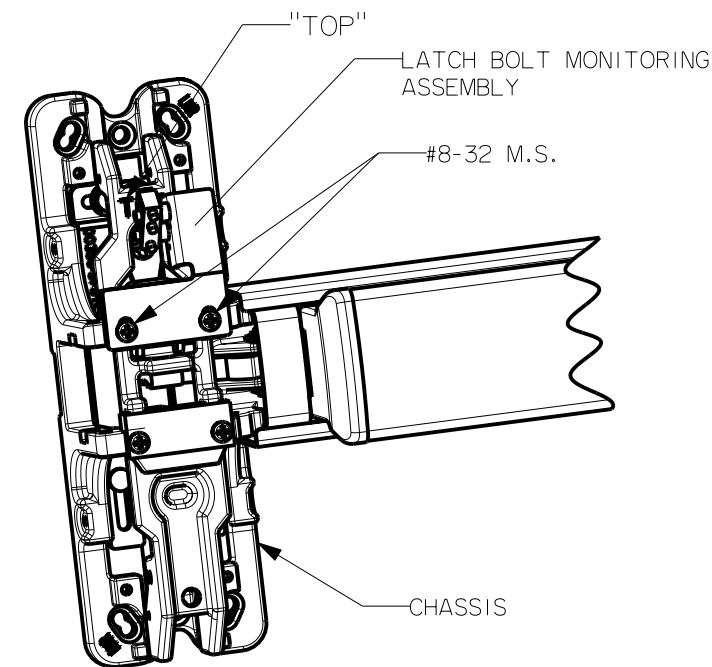
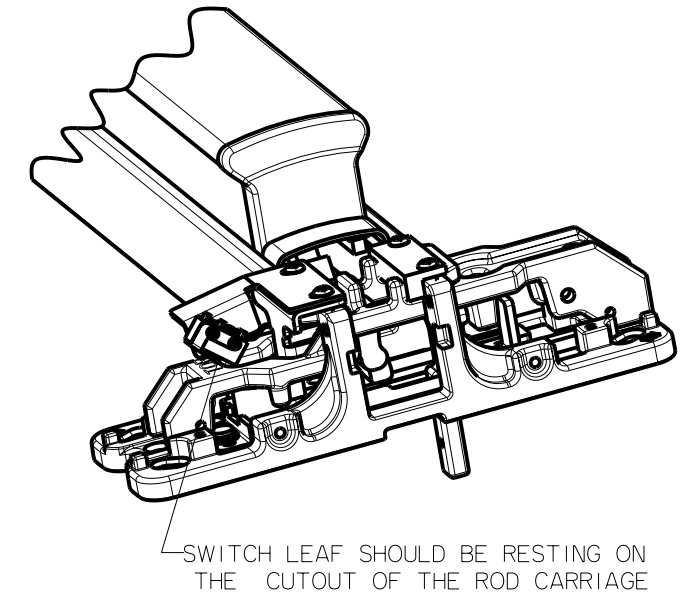

FIG. 4
FIG. 5
- 2 - Remove the 2 screws shown and attach the latch bolt monitoring assembly (FIG. 4) Position the switch leaf under the TOP side of the Rod Carriage cut out as shown (FIG. 5) When the Rod Carriage is pushed up, a switch closure should appear across the tan and yellow wires.